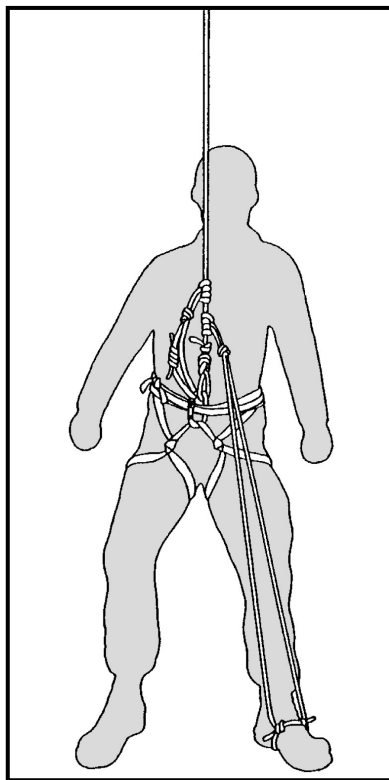

Figure 10-26. Prusik ascending technique.
(3) **Prusik Ascending Technique.** There may be times when the remaining members of a rope team can render little assistance to the person in the crevasse. If poor snow conditions make it impossible to construct a strong anchor, the rope team members on top may have to remain in self-arrest. Other times, it may just be easier for the fallen climber to perform a self-rescue. (Figure 10-26 shows the proper rope configuration.) The technique is performed as follows: